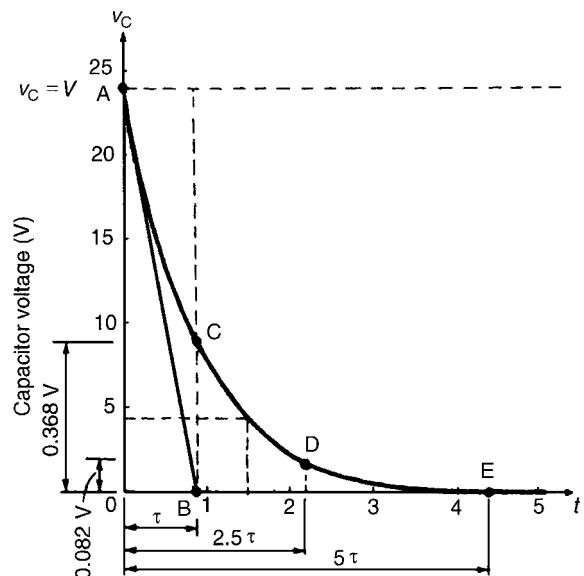

Figure 18.5
(a) The exponential decay of capacitor voltage is from 24 V to 0 V in a time equal to five time constants, i.e. $5 \times 0.88 = 4.4$ s. With reference to Fig. 18.5, to construct the decay curve:
- (vi) the value of the transient after a time equal to two and a half time constants is 0.082 of the initial value, i.e. $0.082 \times 24 = 1.97$ V, shown as point D in Fig. 18.5,
- (b) The voltage drop across the resistor is equal to the capacitor voltage when a capacitor is discharging through a resistor, thus the resistor voltage/time characteristic is identical to that shown in Fig. 18.5 Since $v_R = v_C$, then at 1.5 seconds after decay has started, $v_R \approx 4.4$ V (see (vii) above).